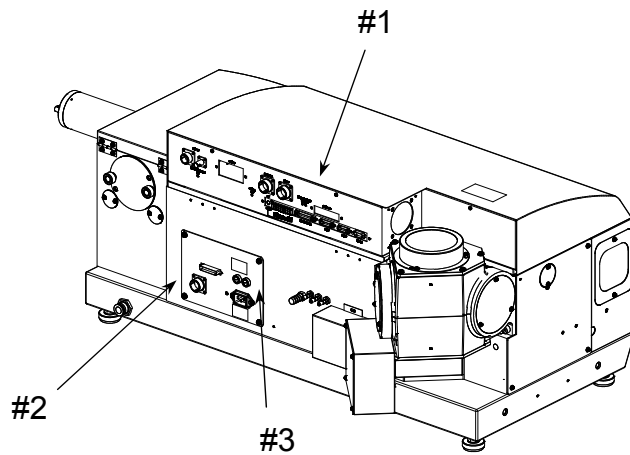

Figure 1 Location of Warning Labels
1) **WARNINGS!** Handling the Xenon Lamp (Figure. 1 #1)
2) **WARNING!** Fuse Rating (Fig. 1 #2)
3) **WARNING!** Grounding (Figure. 1 #3)